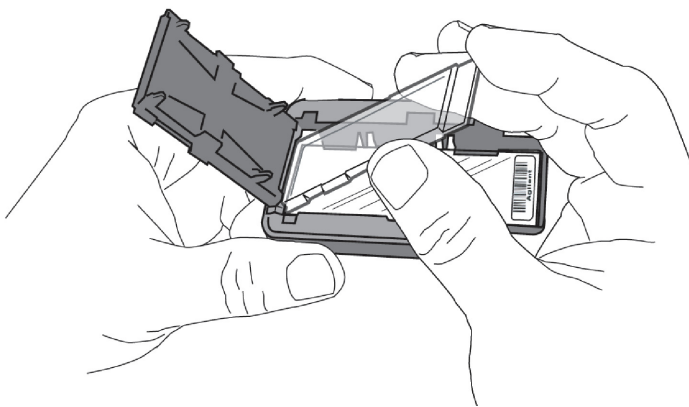

Figure 20. Inserting the ozone-barrier slide cover (shown for Scanner C)
- In environments in which the ozone level exceeds 50 ppb, immediately put the slides with active microarray surface (with “Agilent”-labeled barcode) facing up in a slide holder. Make sure that the slide is not caught up on any corner. Put an ozone-barrier slide cover on top of the array as shown in **Figure 20**. Refer to the *Agilent Ozone-Barrier Slide Cover User Guide* (publication G2505-90550), included with the slide cover, for more information.